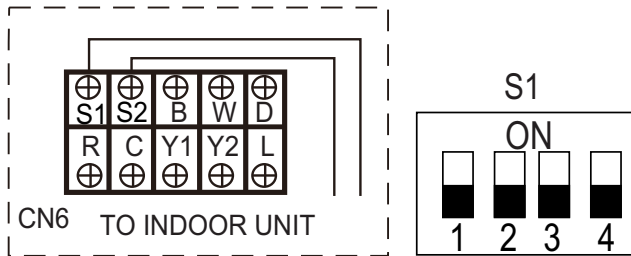

Fig. 21 —Option 1: Non-polarity RS485 Communication
- All connections between the indoor and outdoor units must be made as shown in Figures 21 - 22.